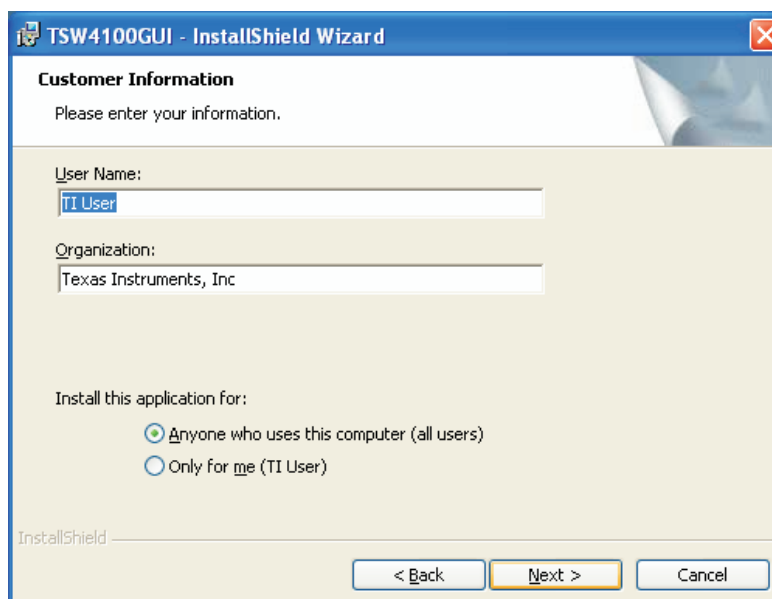

Figure 10. Customer Information
3. On the Customer Information (Figure 10) screen, provide *User Name*, *Organization* information, and select the appropriate *Install this Application for* option. Click *Next*.